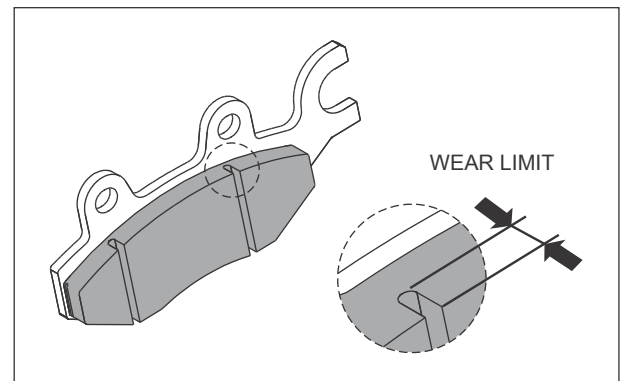

Fig. 6.18
- Observe the wear limit line marked on the pad and check the wear condition of brake pads. (Fig. 6.18)